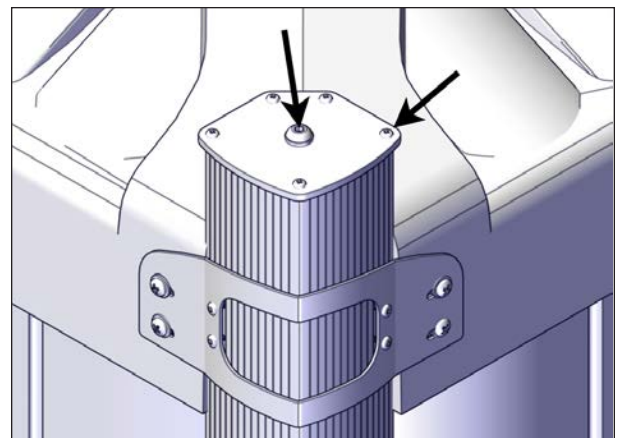

FIGURE 90: SCREW REMOVAL
3. Dismount the screws (5) on the top plate of the posts, see Figure 90.
4. Remove the center screw. Keep the top plates and the screws in a safe location see Figure 90.